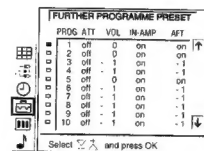

Fig. 18
- Select »Further Programme Preset« with  $\Delta$  or  $\nabla$  and press OK. The FURTHER PROGRAMME PRESET menu appears (See Fig. 18).